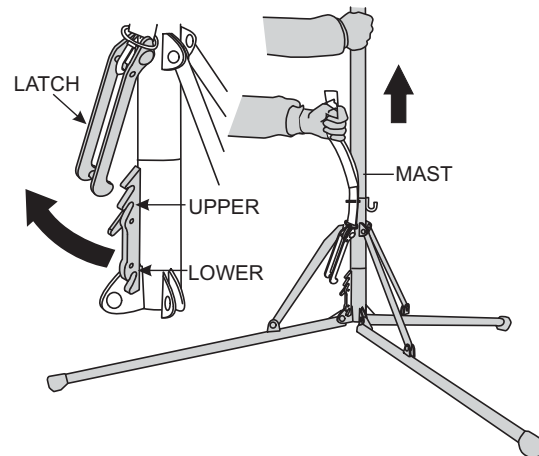

Figure 23. Retracting Tripod Legs
- To retract tripod legs (Figure 23) and place in the stow position, lift up on mast while pulling up on the velcro strap. Continue pulling upward on the mast until the tripod legs are fully retracted and are in the stow position.